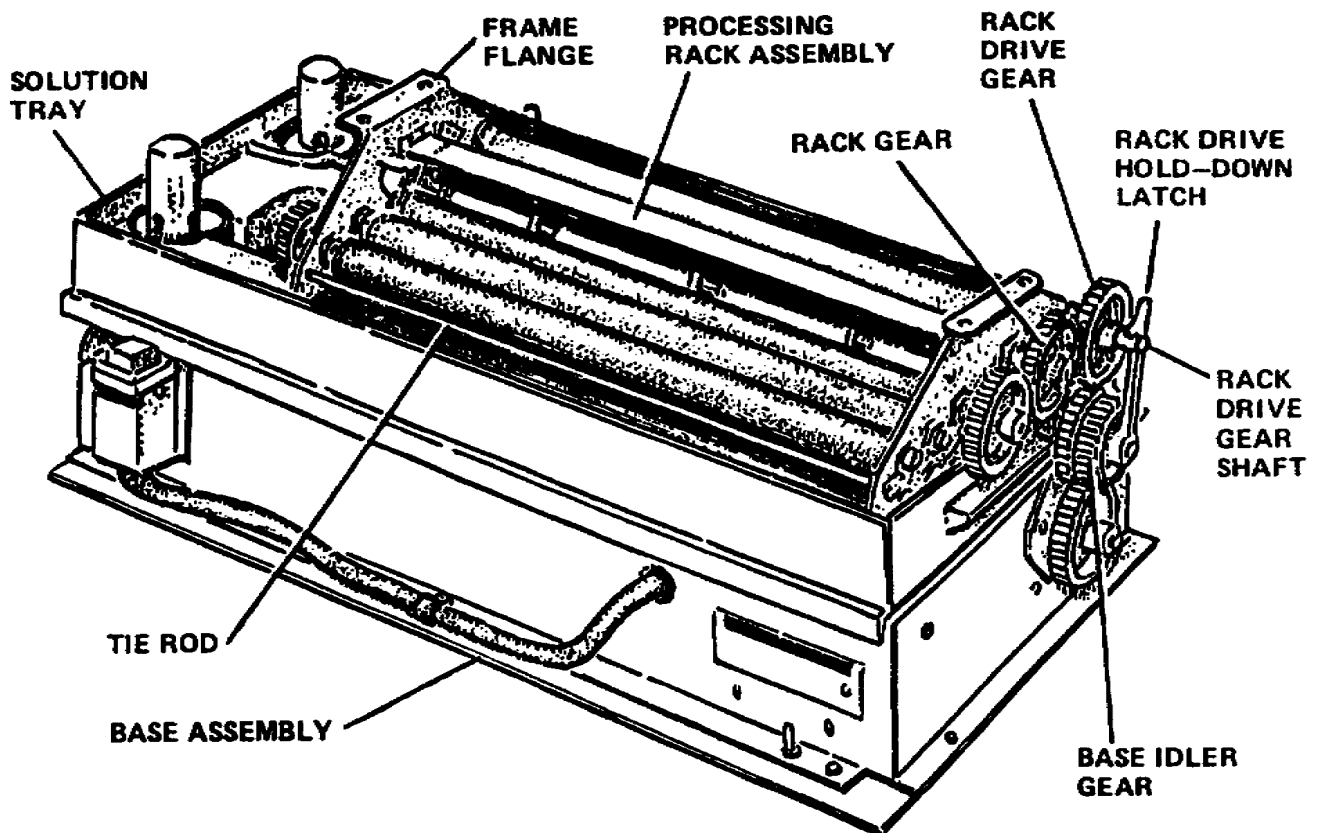
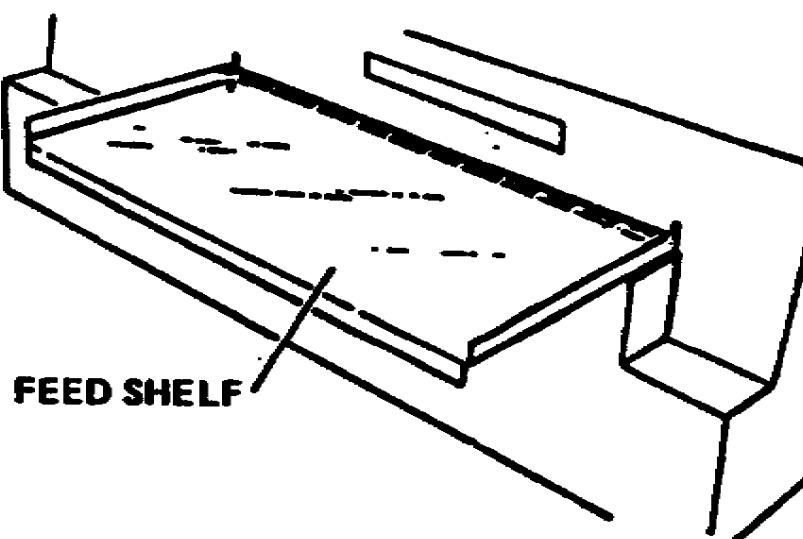

Figure 1-14. Rack assembly on the solution tray
Figure 1-16. Feed shelf
(4) As shown in Figure 1-14, place the processing rack assembly on the solution tray. Be sure the corners of the processing rack assembly rest in the recesses of the solution tray. After verifying the rack gear is meshed with the base idler gear, snap the hold-down latch over the shaft.
(6) Insert the Feed Shelf through the processor housing (fig 1-16) by tilting the front upward and inserting the shelf as far as it will go, then lower the assembly. This hooks each end of the shelf to the tie rod (fig 1-14).